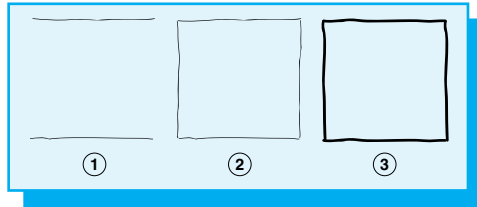

**Figure 3-12**
**Line conventions** and lettering for technical sketches are similar to those used for instrument drawings (**Fig. 3-12**). Sketching standards differ only in the degree of line raggedness. Lines are dark and wide for object lines, dark and thin for dimension and center lines, and thin and light for layout and guide lines. **Figure 3-13** shows the application of line conventions to a technical sketch.